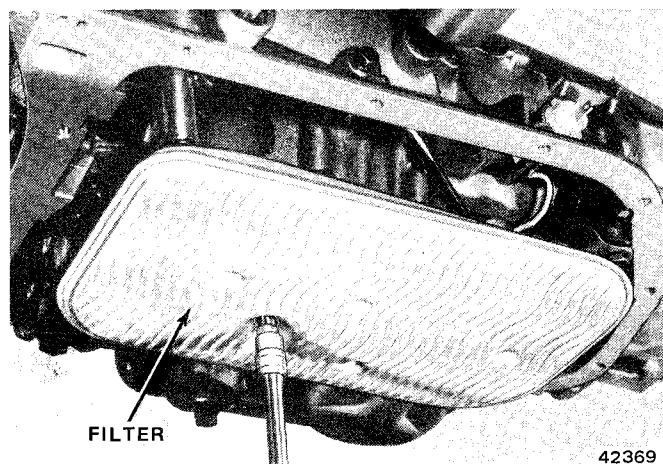

Fig. B-13 Removing Automatic Transmission Filter
(1) Remove transmission pan screws, pan, and gasket.
(2) Remove and discard oil filter (fig. B-13).